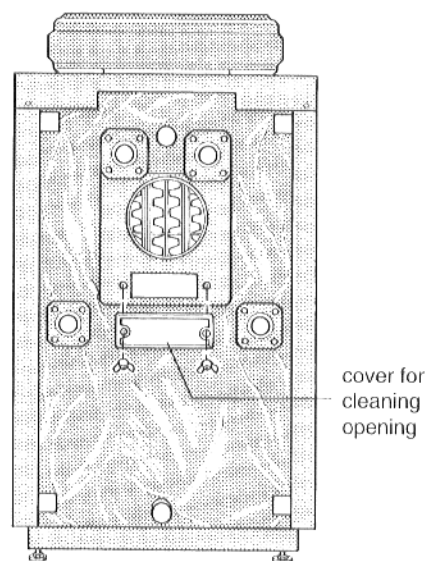

Fig. 20
- Brush the heating surfaces well to the **rearmost end** with the cleaning brush in the horizontal direction. Remove combustion residues. For this purpose, unscrew the lid of the cleaning opening on the rear of the boiler with the two wing nuts (Fig. 20).
- Screw the cleaning opening tight again (Fig. 20).